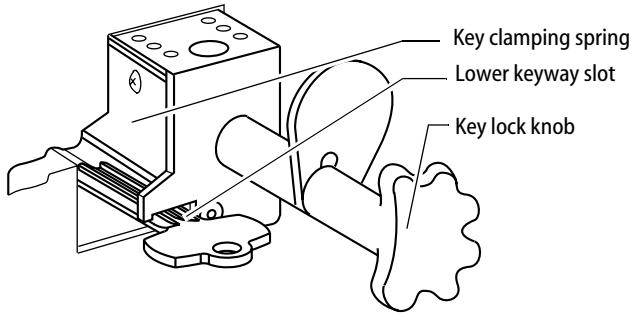
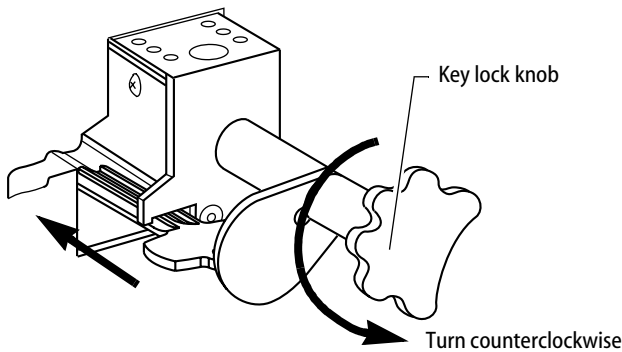

Figure 4 — Inserting the key
Figure 5 — Clamping the key in place
- 1 Pull the key carriage out as far as possible. Turn the key lock knob so that the open area will allow the key to be inserted into the key carriage. See Figure 4 and Figure 5.
- 3 Push the key forward as far as possible, pull the key lock knob, and turn counterclockwise to clamp the key in the key carriage. See Figure 5.